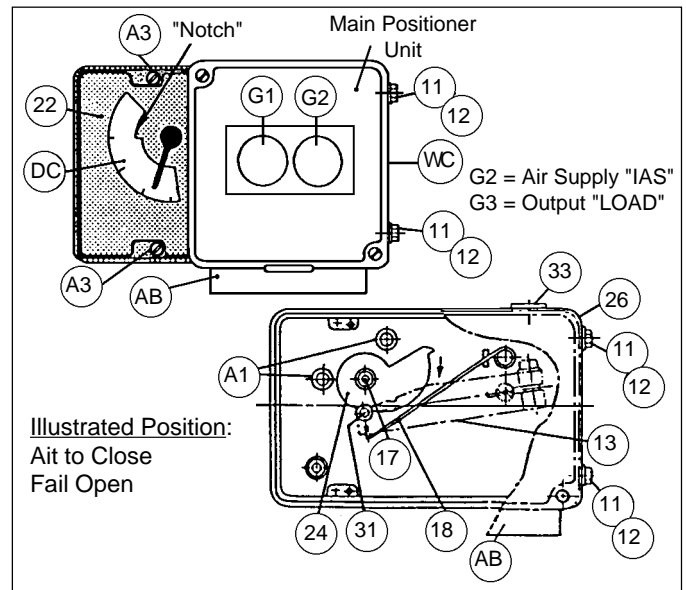

Figure 5
13. Remove the two plastic screws in the right side of the main positioner unit where cap screws (11) would be inserted. (See Figure 5.)
14. Begin to set the main positioner unit near its final position on baseplate (26). Using needle nose pliers grasp compensating spring (18) and "hook" the end of the spring (18) under the lower side of the feedback lever as indicated in Figure 5.
(17) . If this occurs, the positioner unit must be removed from the rotary baseplate (26). Using a screwdriver, hand tighten the main shaft (17) by turning CW (as viewed from main shaft (17) end) as tightly as able while holding the stroke factor lever (19) firmly against the travel stop pin (20).
23. Place decal (DC) onto indicator cover (22) backside as indicated in Figure 5. Trim the decal to remove the "120°" indication. Align the "0°" position to the notch of the indicator cover (22); the "0°", "30°", "60°" and "90°" tick-marks should touch the outside arc of the clear portion of indicator cover (22).
24. Check the valve's actual position of the plug. Place plastic red pointer (34) just barely onto post-end screw (23). Calibrate pointer (34) to indicator cover (22) by repositioning pointer (34) as required. When calibration is satisfactory, press pointer (34) firmly down over post-end screw (23).
25. Fasten clear indicator cover (22) into place using two cap screws (A3).